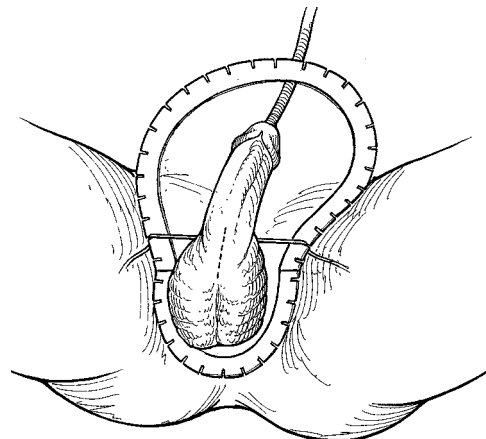

Figure 4-2. Penoscrotal: Identify Incision Site
- When using the SKW retractor, place the ring retractor on the patient with the large ring toward the patient's head (cephalad) and the smaller ring towards the patient's feet (caudal). (**Figure 4-2**).
- While holding the incision on the penis, place hooks at 1, 5, 7, 11, 3 & 9 o'clock (**Figure 4-2**).